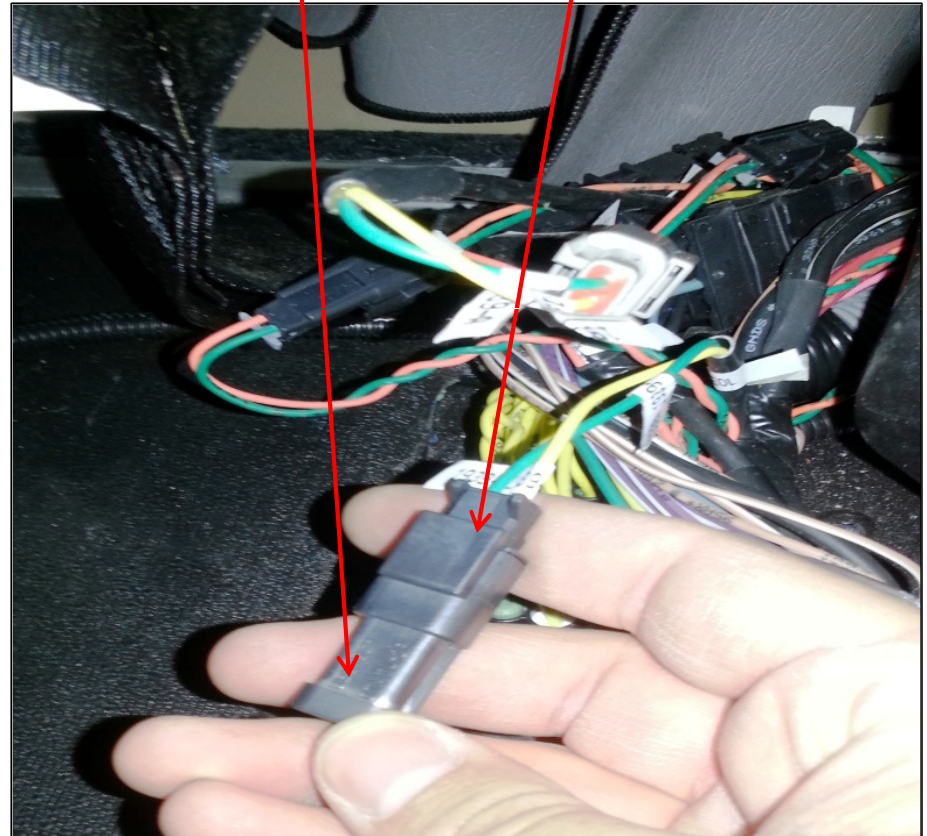

Figure 2
4. Route J1939 wires to “Terminating Resistor” located at “B” pillar under seat belt recoil cover, shown in “Figure 2”.